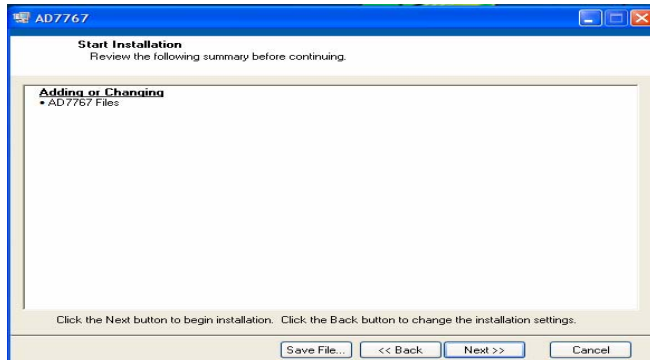

Figure 5. AD7767/-1/-2 Install actions
4) To start the installation, click the “Next” button as shown in Figure 5. This window details the actions of the installation.